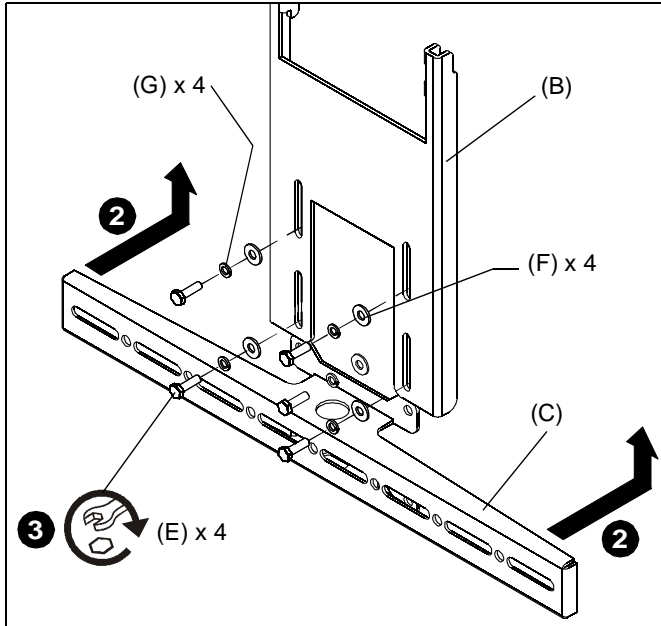

Figure 1
2. Place speaker bracket (C) behind hook bracket (B) and raise the speaker bracket into place behind the hook bracket. (See Figure 1)
3. Loosely attach speaker bracket behind hook bracket at the bottom of the slots using four 10-24 x 5/8" hex head cap screws (E), four #10 split lock washers (G), and four #10 flat washers (F). (See Figure 1)